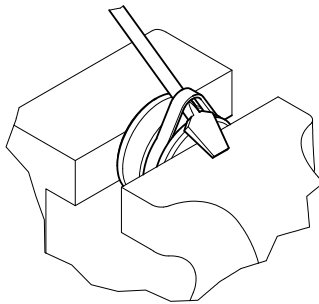

Figure 5-5, Gland Cap Seal
7. Carefully pry up on the gland cap seals using a blunt tip screw driver being careful not to scratch the seal grooves. Cut the seals to remove from the gland cap. (Figure 5-5)